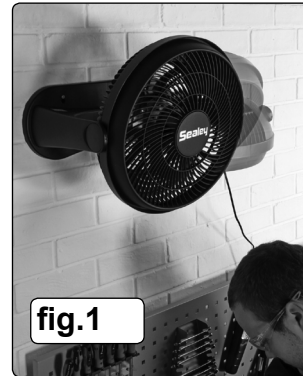

fig.1
- 3.1. The fan can be used either free-standing or wall-mounted (fig.1).
- 3.2.3. The fan head will lock in 10° increments to allow the most effective position to be selected.(fig.1)